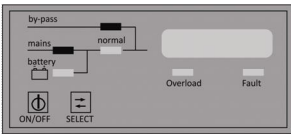
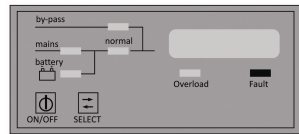

Figure 3.3
Figure 3.4
2. If the mains voltages and the frequencies are within the limits, the *mains* and the *by-pass* LEDs will be on (Figure 3.3). If they are out of the limits, the *Fault* LED will be on and a warning beep will be heard (Figure 3.4).